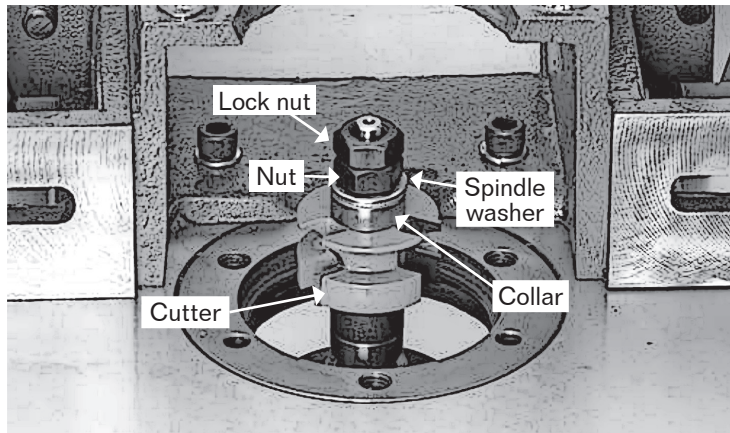

Fig 22. Cutter and fasteners.
6. Place a spindle washer above the cutter and screw on the nut and locknut as shown in Figure 22.